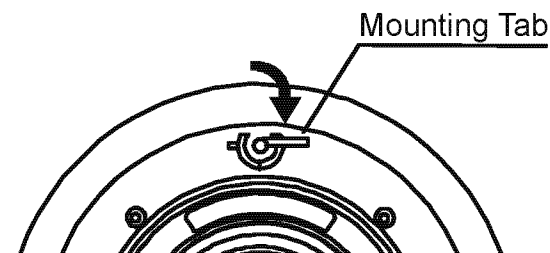

Figure 1 Position the Mounting Tabs
2. Position the mounting tabs (see Figure 1) inward.